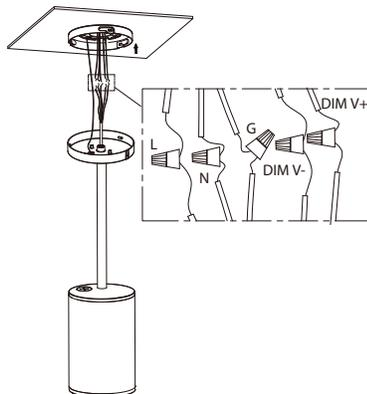

Fig 9
4. Fixing the ceiling tray to the ceiling, hang up safety rope. Connect the wire. (Fig 9)